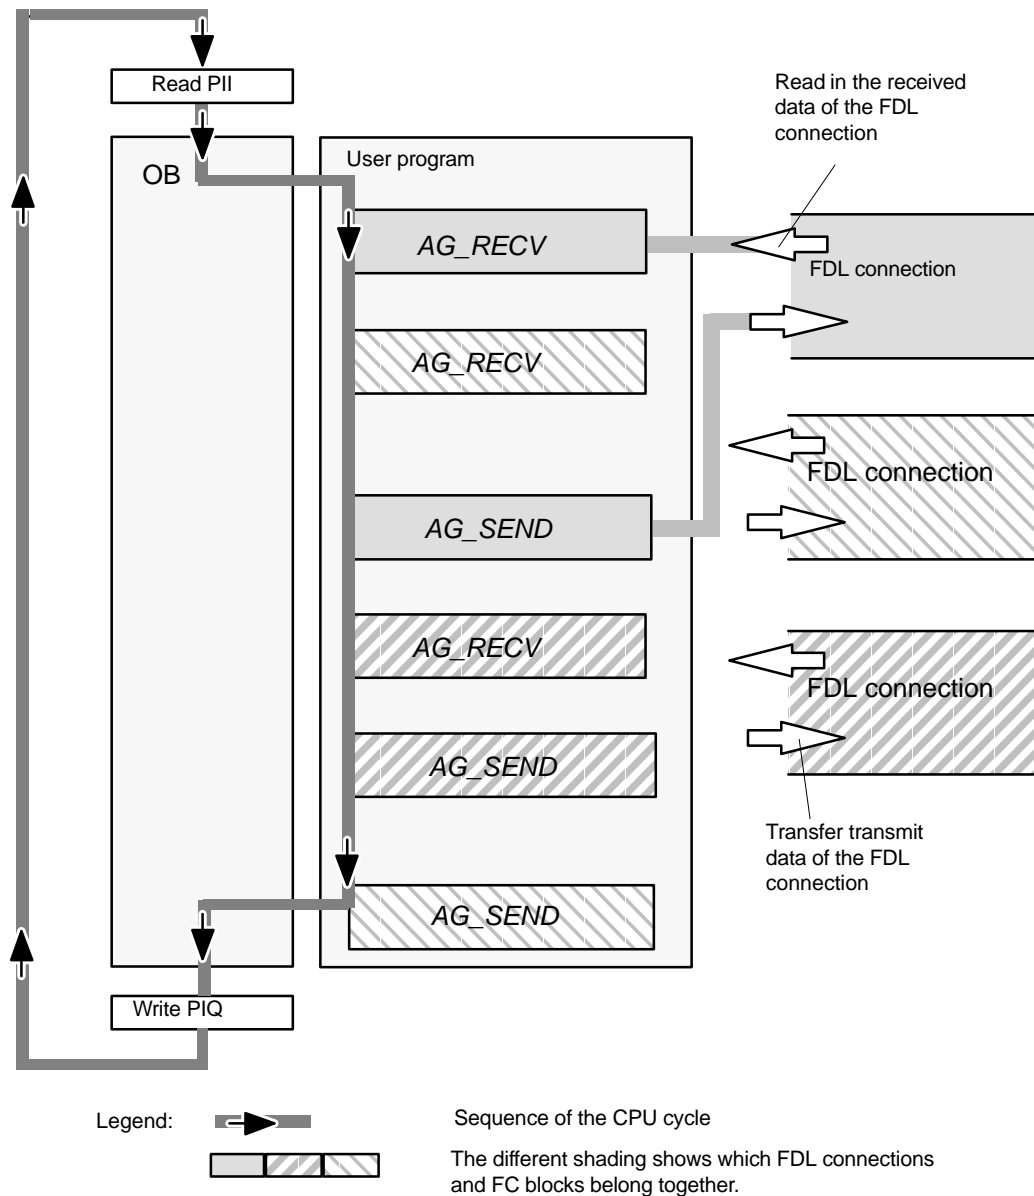

Figure 7-9 Typical Sequence of FDL Function Calls in the CPU Cycle
- The user program consisting of any number of blocks (OBs, FBs or FCs) accesses several FDL connections. (Figure 7-9 illustrates three connections).